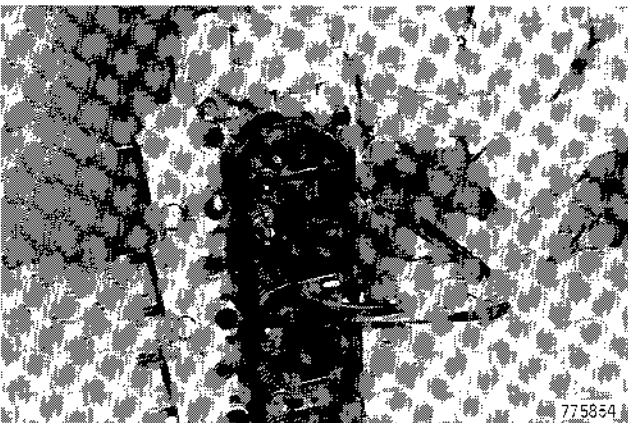

Figure 126
4. Install the valve spring compressing tool and compress the valve spring, Figure 126.